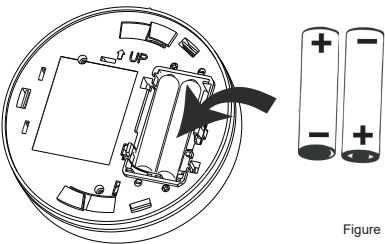

Figure 12
- 2)Load 2x new AA battery into the battery compartment(refer to Figure 12),buzzer sounds 'Di-',then install the detector back onto the mounting bracket.